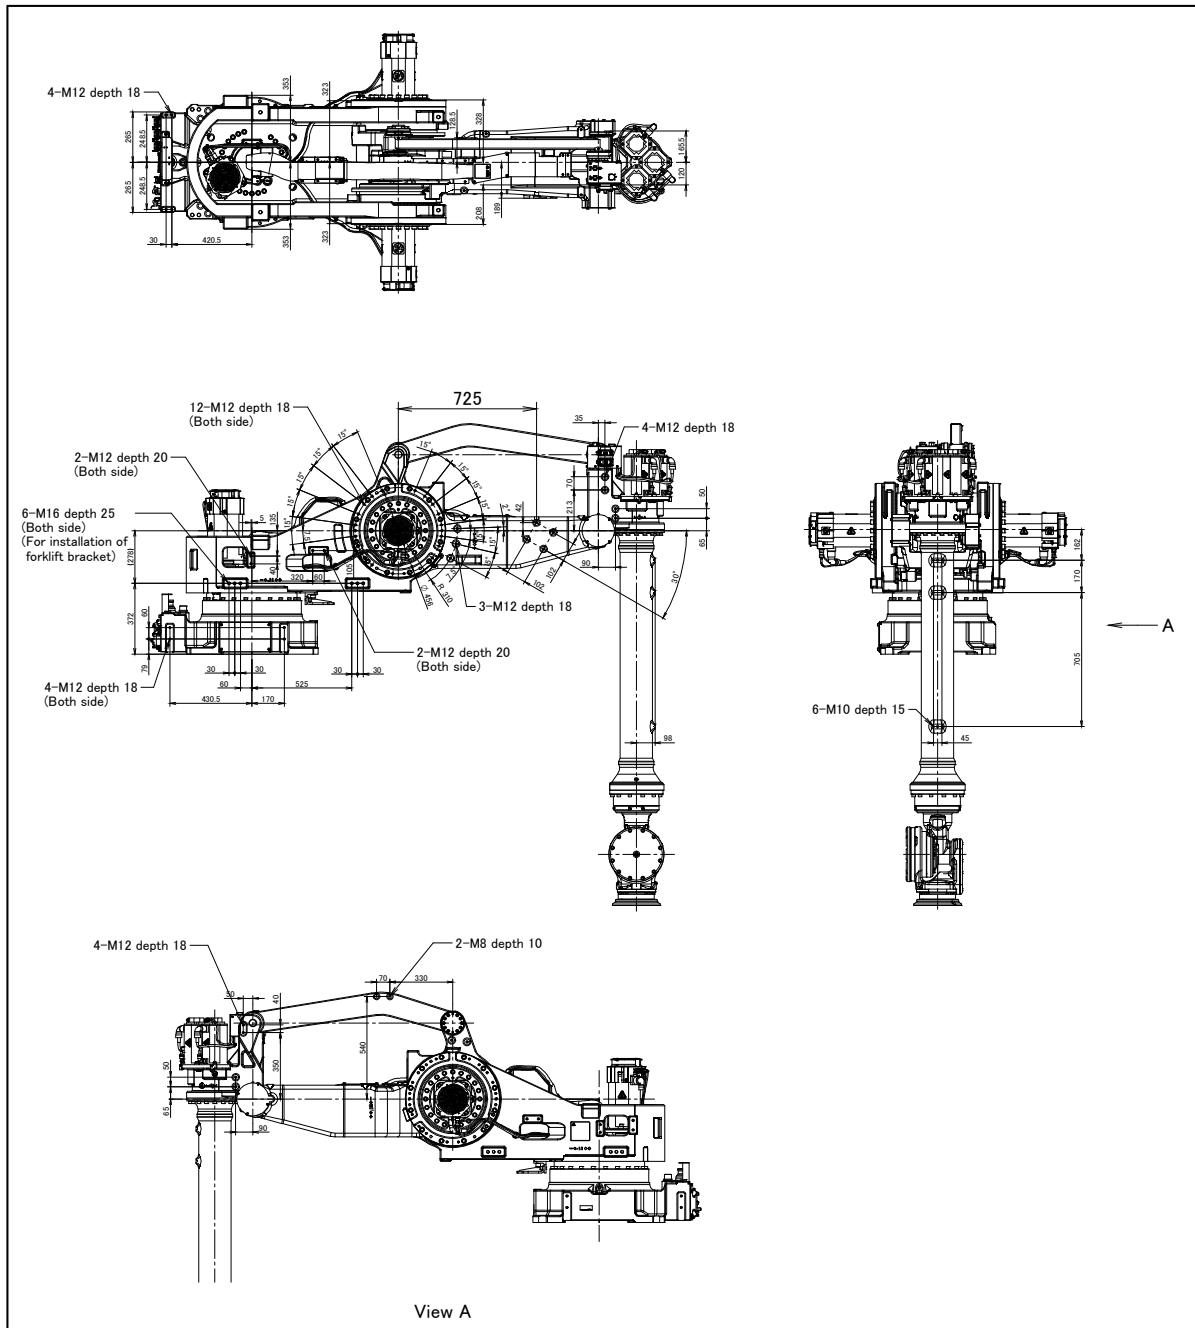

Fig. 9.4 (b) Equipment mounting faces (M-900iA/150P)
As shown in Fig. 9.4 (a) and (b), tapped holes are provided to install equipment to the robot.
- 2 When using a user tap shown in Fig. 9.4 (a) and (b), please keep the center of gravity position of the equipment as shown in Section 9.2.